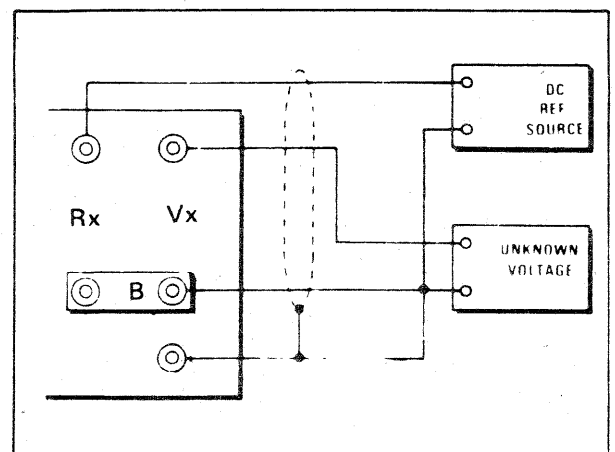

Fig. 2-7. Voltage Ratio Measurement connections
a. Connect the DC reference voltage (+1V to +11V) to the reference Rx inputs and the AC or DC "unknown" voltage to the Vx inputs as shown in Figure 2-7. Observe same precautions about the unknown input as for the ACV or DCV measurements.